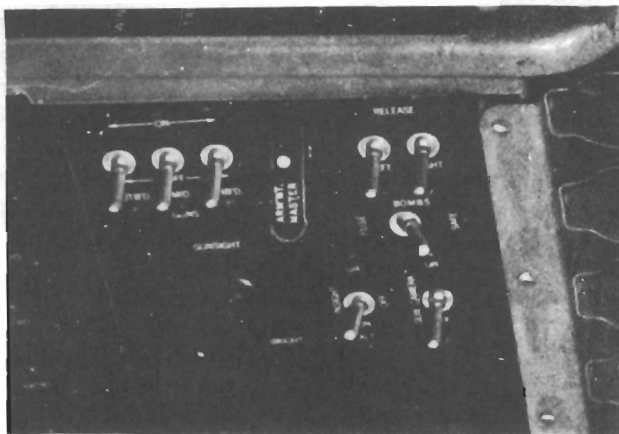

Figure 42 - Armament Control Panel - F6F-3
(1) This airplane is equipped with six 50 calibre machine guns, three in each outer wing panel. The guns are fired electrically by a trigger switch located on the forward side of the surface control stick.
(2) The gun master switch and selector switches are located on the armament panel. See Figure 42. The guns are safetied hydraulically by the two control handles located on the lower center control panel. See Figure 24. To safety guns, turn handle to safety position and push in. To charge guns turn handle to charge position and push in. If the engine driven hydraulic pump is not functioning the guns can be safetied or charged by turning the hand pump selector valve to gun charging position, then operate the hand pump. Approximately 800 p.s.i. is required to operate.
(2) The control switch and rheostat for the gun sight are mounted on the armament panel. See Figure 42. The rheostat controls the intensity of the lamp. This lamp has two filaments therefore the control switch has two positions: ON and ON ALTERNATE. If lamp fails, throw switch to ON ALTERNATE position. A manual reset circuit breaker is on circuit breaker panel. A spare lamp is clipped to the gun sight mount and may be installed during flight.